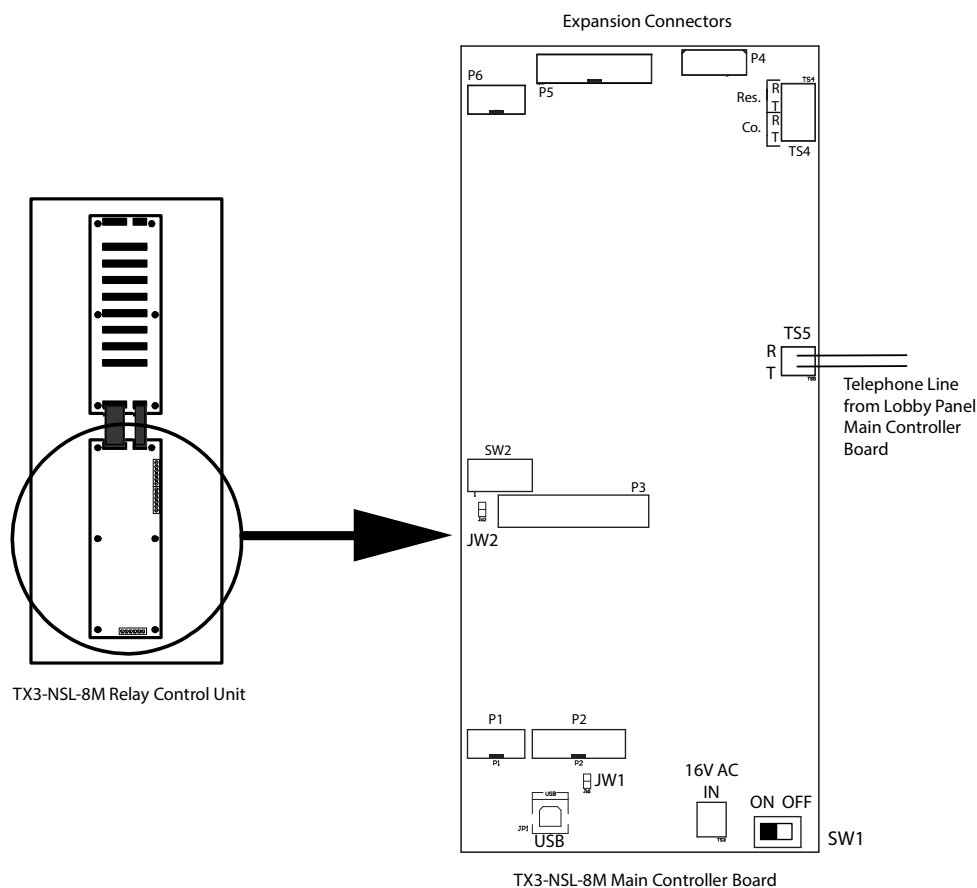

Figure 34. TX3-NSL-8M Main Controller Board
Figure 34 shows the general layout of the TX3-NSL-8M Main Controller board components.
1. Connect a telephone to the TX3-8M-NSL Relay Control unit telephone terminal block (see figure 34).